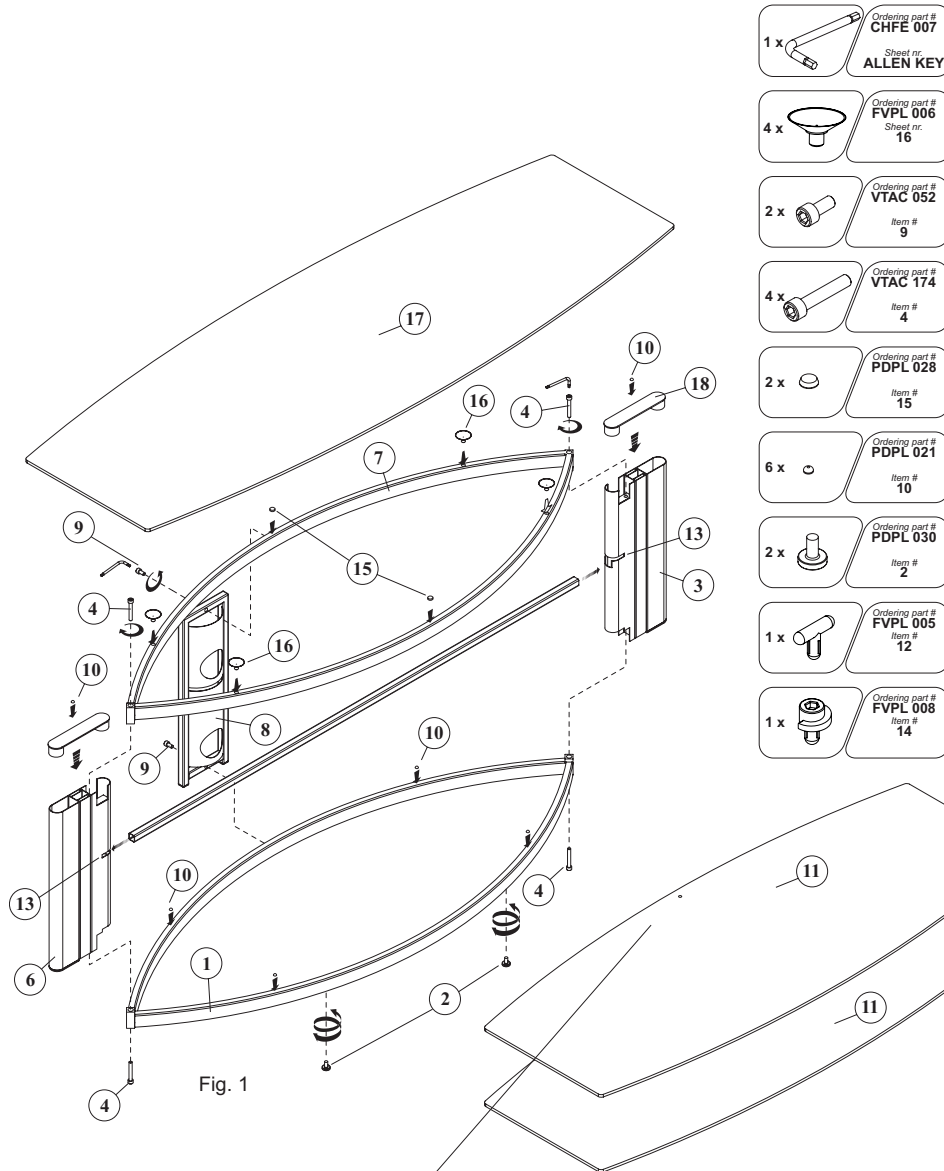

Fig. 1
A. REMOVE the two oval metal frames from the carton and place the TOP frame (7), identified by the "TOP" sticker, to the side. SELECT the BOTTOM frame (1), identified by the threaded metal inserts on the bottom of the frame, and SCREW the leveling feet (2) into the threaded inserts.
B. PLACE the BOTTOM frame (1) with the leveling feet (2) on the floor facing towards the front. POSITION the RIGHT side leg (3) over the BOTTOM frame, with the Bell'O[®] logo at the top and facing forwards, and CAREFULLY tip both pieces over. SECURE them together, using one of the four long screws (4) and the supplied Allen key. Note: DO NOT FULLY TIGHTEN THE SCREW AT THIS POINT.
C. INSERT the square center shelf support bar (5) into the square cut-out located in the center of the RIGHT side leg (3). POSITION the left side leg (6) and INSERT the opposite end of the square center shelf support bar (5) into the square cut-out located in the center of the LEFT side leg (6).
D. PLACE the left leg (6) over of the BOTTOM frame (1) and SECURE the left side leg to the BOTTOM frame using one of four long screws (4) and the Allen key. Note: DO NOT FULLY TIGHTEN THE SCREW AT THIS POINT.
E. CAREFULLY tip the unit upright so that the BOTTOM frame (1) is resting on the floor. PLACE the TOP frame (7), with the four holes located in frame facing upwards, and INSERT the TOP frame into the cut-outs on the top of the side legs (3) and (6). SECURE the TOP frame to the legs using two of the four long screws (4). Note: DO NOT FULLY TIGHTEN THE SCREWS AT THIS POINT.
F. PLACE the CMS[®] (Cable Management System) post (8) upright against the rear of the frame as shown in Fig. 1., and ALIGN the top and bottom holes of the CMS[®] post with the threaded inserts located on the rear of TOP and BOTTOM frames (1) and (7). SECURE the CMS[®] to the frames using two short bolts (9) and the Allen key.
H. INSERT the two metal leg caps (18) onto the side legs (3) and (6), and APPLY two smaller rubber glass pads (10) as shown. APPLY the four smaller rubber glass pads (10) to the upper side of the BOTTOM frame (1) as shown in Fig. 1.
K. APPLY the two larger rubber glass pads (15) to the mid-point of the front and rear of the TOP frame (7) as shown in Fig. 1. INSERT the four smaller rubber glass pads (10) into holes located on the TOP frame (7) as shown in Fig. 1.
L. CAREFULLY position and place the top glass shelf (17), the largest of the three shelves, onto the top of the assembled frame so that it is centered over the frame and legs. PRESS DOWN GENTLY to secure the top glass shelf to the furniture. NOTE: THE SUCTION CUPS WILL HELP PREVENT THE TOP GLASS FROM BEING MOVED. TO REMOVE THE TOP GLASS, GENTLY PULL THE TABS ON THE SIDE OF THE SUCTION CUPS DOWNWARD TO RELIEVE THE SUCTION.
M. If needed, ADJUST the leveling feet (2) to ensure that the furniture is resting flat on the floor.